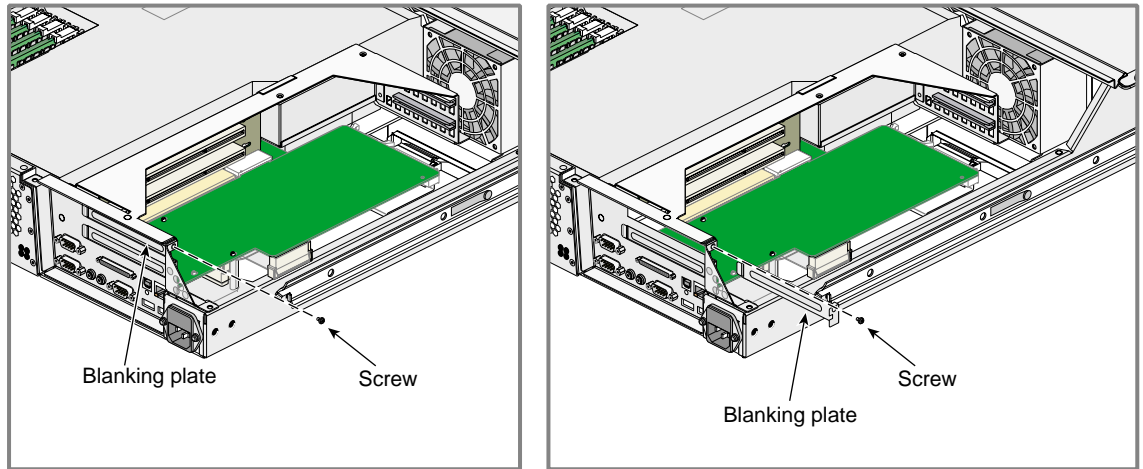

Figure 4-3 Removing Blanking Plate
6. If a blanking plate covers the slot that is needed for the installation, remove the retaining screw as shown in Figure 4-3 and the blanking plate.